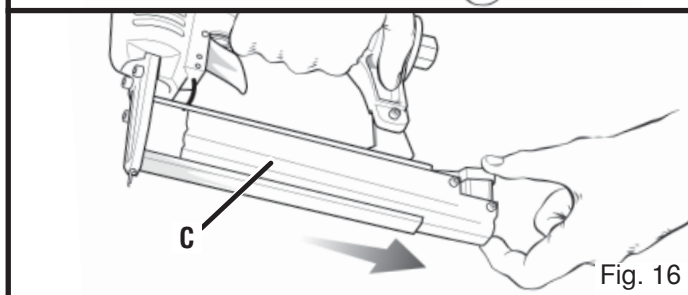

Fig. 16
- 4) Slide the outer part of cartridge (C) downwards (Fig. 16).